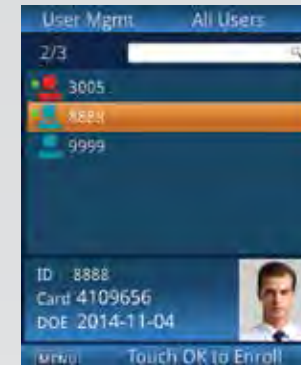

Fig 3.04-1
- Select the user that will be assigned to the card by using the **▲** or **▼** keys to search the list or by entering the ID# of the user. (**Fig 3.04-1**)